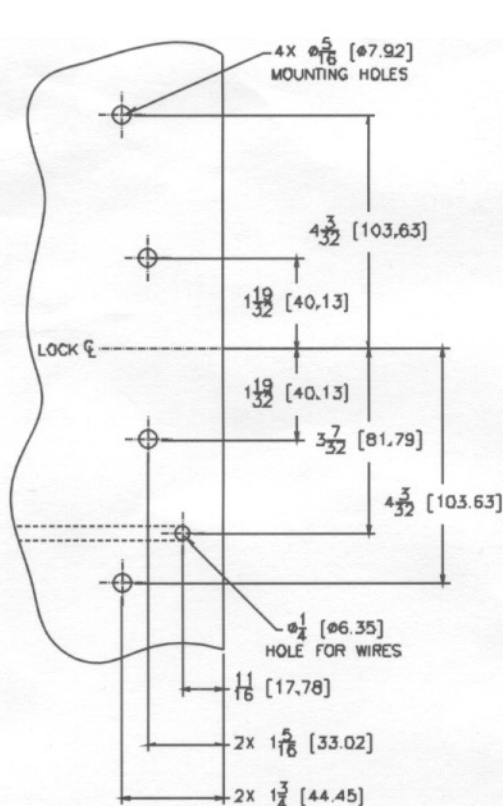

FIGURE 1
1. Begin by preparing the door for installation by drilling the mounting holes and stringing the power wires as shown in figure 1. The wires from inside the door must surface through the hole labeled 'HOLE FOR WIRES'.